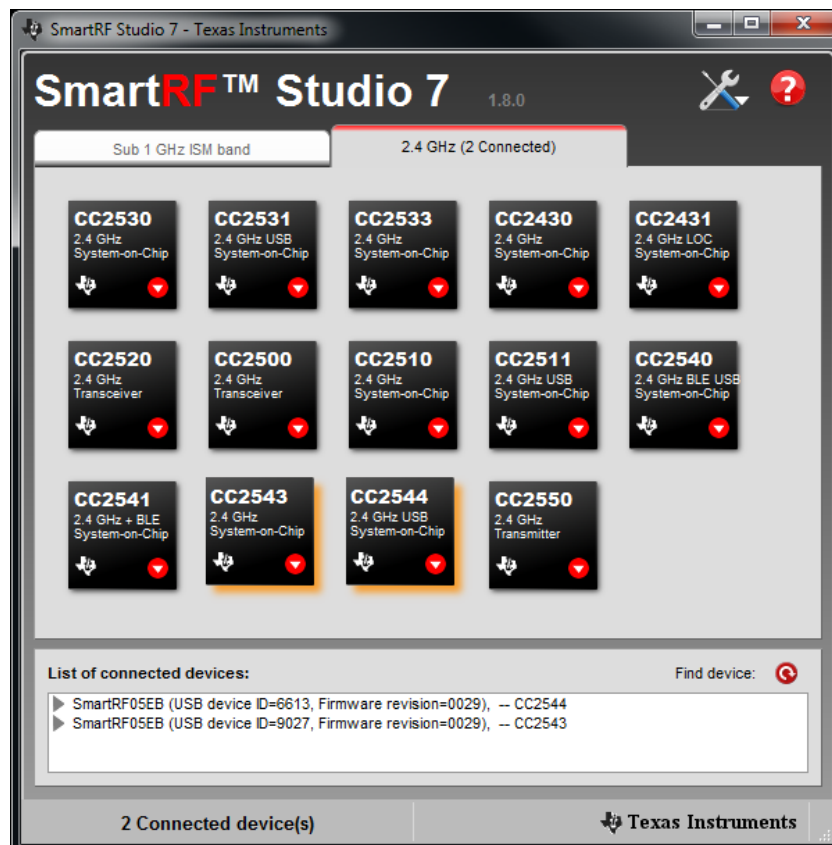

Figure 6 - CC2543 and CC2544 in SmartRF Studio
- Double click on both of the devices in the device list in SmartRF Studio (Figure 6), opening one “Device Control Panel” for each device, giving control of the two radios at the same time.